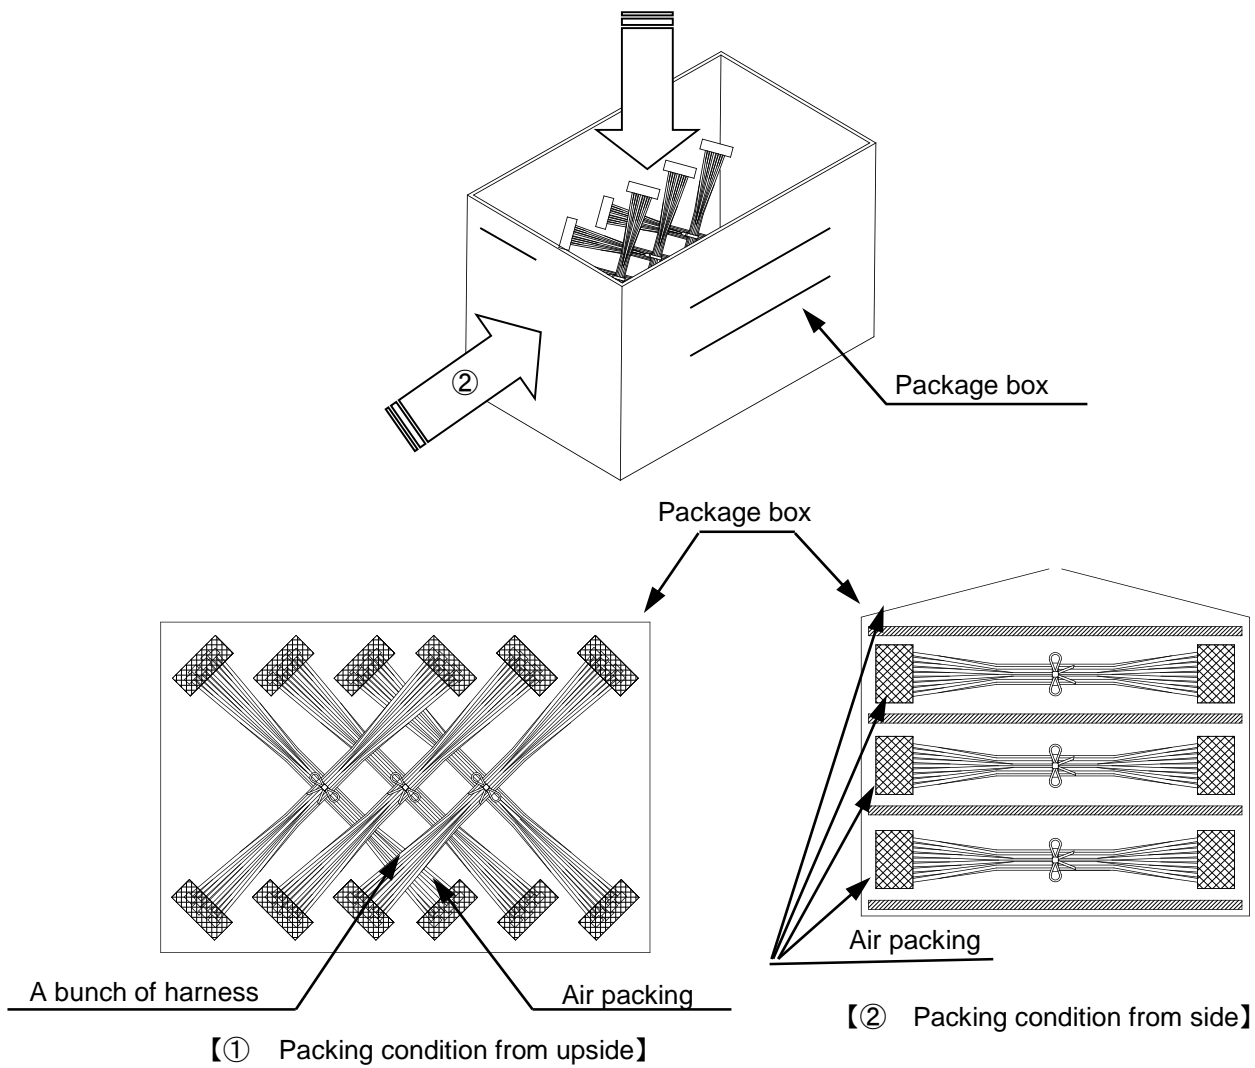

Fig.8-2 Packing condition
Figure below (**Fig 8-2**) is one of examples for recommended reference. Please take measure not to add force to connector for a long period of time by stacking if you pack by different packing method for long harness.
- ※When packing bundle of harness after processing in a package box, please follow instructed packaging and avoid applying excessive load or force to harnesses. (cross shape) (**Fig.8-2 ①**)
- ※Please lay air packing etc. on the bottom of package box. In order to prevent force from applying to connectors for a long time by piling up package boxes, please lay air packing etc. (**Fig.8-2 ②**)